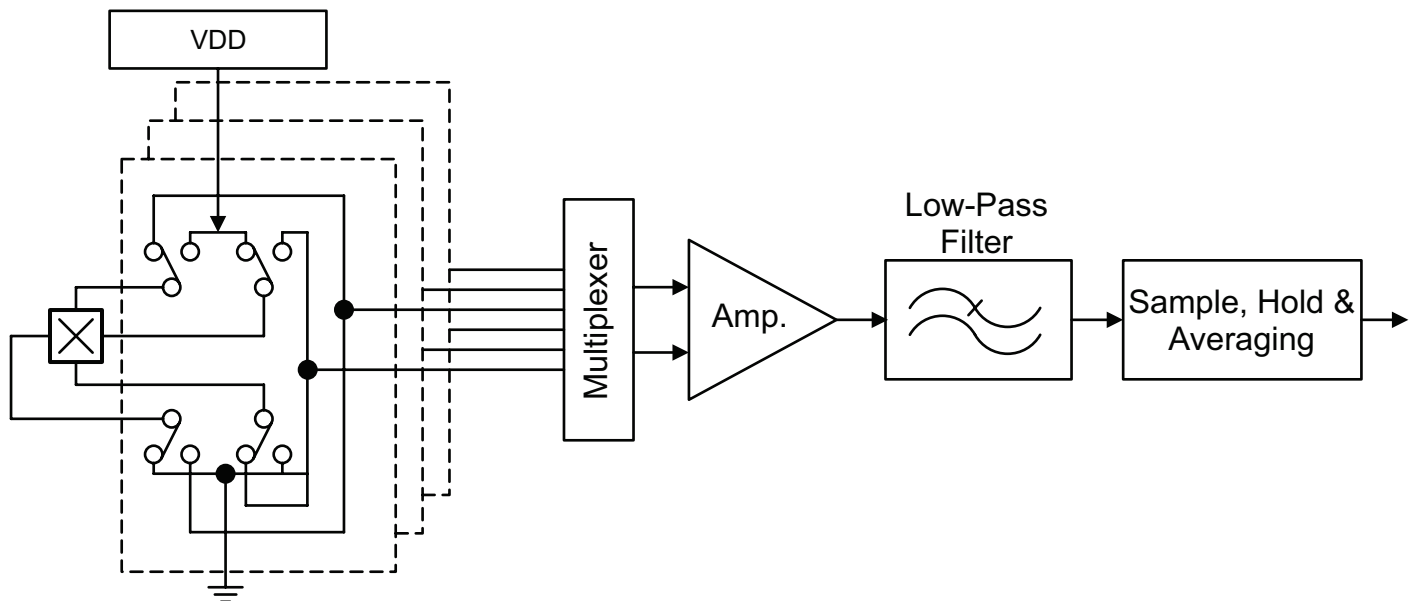

Figure 3: Model of Chopper Stabilization Technique
the E1-to-E2 spacing, the dual-planar sensor exhibits diminished phase separation, making signal processing the outputs into speed and direction less robust. Using a different ring-magnet geometry has no effect on the A1262, and the two channels remain in quadrature (see Figure 3 below).
**Figure 3: Ring magnet not optimized for a dual-planar Hall-effect sensor resulting in significantly reduced output phase separation, however still results in quadrature for the A1262.**
Chopper stabilization is a proven approach used to minimize Hall offset on the chip. The patented Allegro technique, namely Dynamic Quadrature Offset Cancellation, removes key sources of output drift induced by thermal and mechanical stresses. This technique is based on a signal modulation-demodulation process. The undesired offset signal is separated from the magnetic field-induced signal in the frequency domain, through modulation. The subsequent demodulation acts as a modulation process for the offset, causing the magnetic field induced signal to recover its original spectrum at baseband, while the dc offset becomes a high-frequency signal. The magnetic sourced signal then can pass through a low-pass filter, while the modulated DC offset is suppressed. This configuration is illustrated in Figure 3.